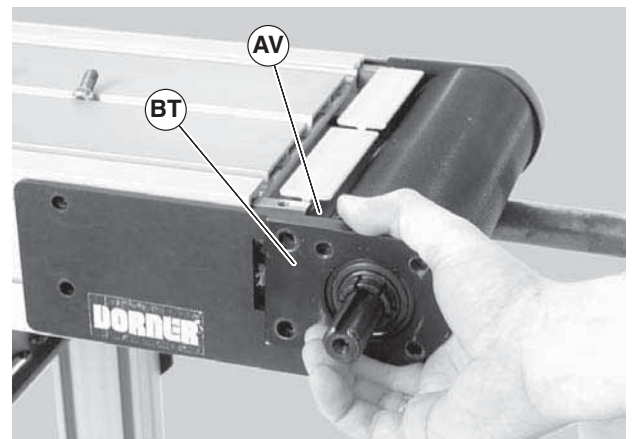

Figure 52
7. Remove the outer headplate assembly (Figure 52, item BT), and inner spacer (AV).